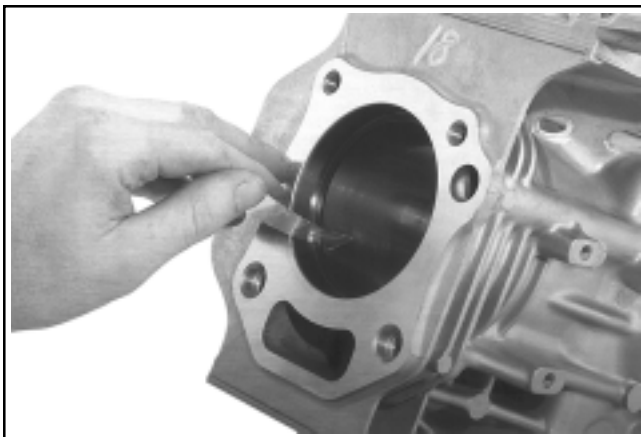

Figure 10-14. Measuring Piston Ring End Gap.
3. Before installing the rings on the piston, place the top two rings, each in turn, in its running area in the cylinder bore, and check end gap. See Figure 10-14. This gap should be a maximum of **0.9 mm (0.035 in.)** in a used cylinder bore and **0.2 mm/0.4 mm (0.008/0.016 in.)** in a new cylinder bore.